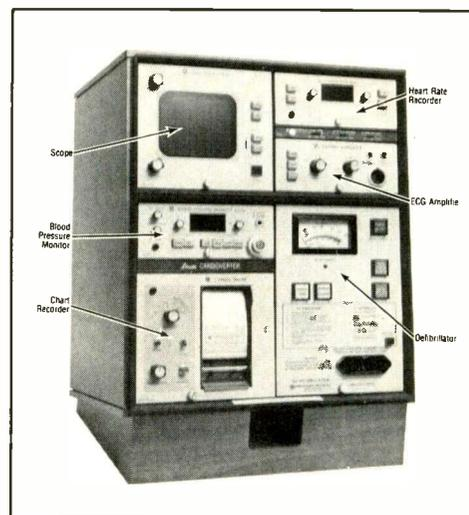
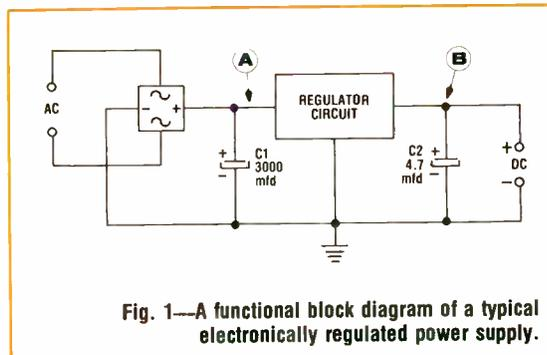

Fig. 2—A bedside defibrillator and monitoring package. (courtesy of American Optical)
Fig. 1—A functional block diagram of a typical electronically regulated power supply.
Noise voltage caused by thermal agitation of electronics in a 75-ohm antenna or terminating resistor is about $1.1 \mu\text{V}/\text{Ch}$, or -59.1 dBmV at room temperature, as illustrated in Fig. 2. At -25°F it drops to -60 dBmV ($1.0 \mu\text{V}$) and rises to -58.6 dBmV ($1.175 \mu\text{V}$) at $+140^\circ\text{F}$. So, for all practical purposes, we can consider the minimum noise voltage in round numbers as $1 \mu\text{V}/\text{Ch}$, or -60 dBmV across 75 ohms. This means that there will always be a theoretical, bare-minimum noise level of $1 \mu\text{V}/\text{Ch}$ of thermal noise measured anywhere in a 75-ohm system from the antenna to the TV set.
The size of the charge to be stored in the capacitor is determined by the charge control knob on the front panel and is read from the calibrated panel meter. Fig. 2 shows a similar instrument but of more recent vintage. The charge control knob in this later instrument has been replaced by pushbutton switches.
Fig. 2—Waveforms produced by the power supply circuit shown in Fig. 1. (A) shows the ripple present at point A in Fig. 1. (B) shows the waveform at point B in Fig. 1, after regulation.
A lot of modern electronic equipment is operated from internal regulated power supplies. One feature of such power supplies is that almost all of the AC ripple normally encountered in rectifier circuits is suppressed by the regulator. Fig. 1 shows a functional block diagram of an electronically regulated supply. The waveforms to be found at points A and B are shown in Fig. 2. (The vertical amplifiers in the dual-trace oscilloscope have been adjusted to have the same sensitivity so that the relative amplitudes of two voltages can be compared.)
The top waveform in Fig. 2 shows the ripple present at point A in Fig. 1. This point is at the output of the rectifier bridge and be-